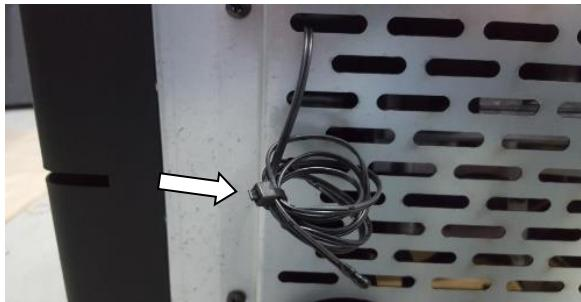

Figure 15 – Room temperature probe
- As salamanders a *pellets* They have a probe to measure the ambient temperature. This probe is attached to the grille at the back (Figure 15). For the most accurate reading of the ambient temperature, avoid contact of the probe end with the machine frame. If you wish, you can also fix it on the wall next to the machine.